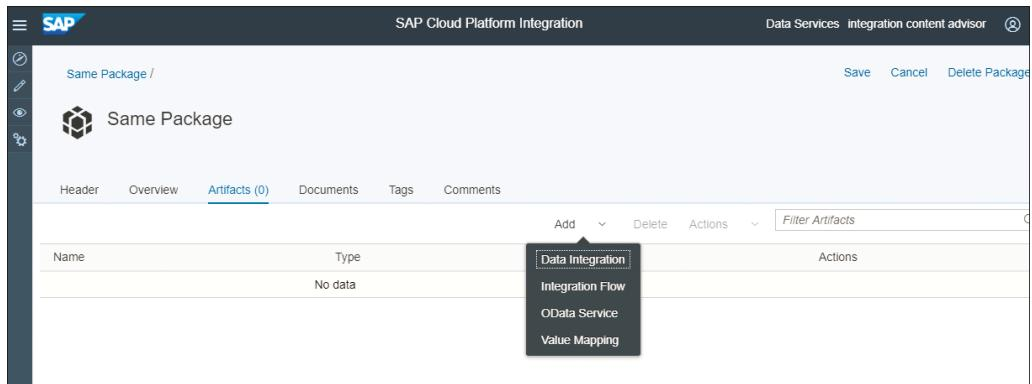

Figure 3.30 Adding Artifacts to an Integration Package
5. On the **Artifacts** tab, click **Add**, and choose an artifact of type **Data Integration**, **Process Integration**, **ODATA Service**, or **Value Mapping** to add it to the integration package (Figure 3.30).